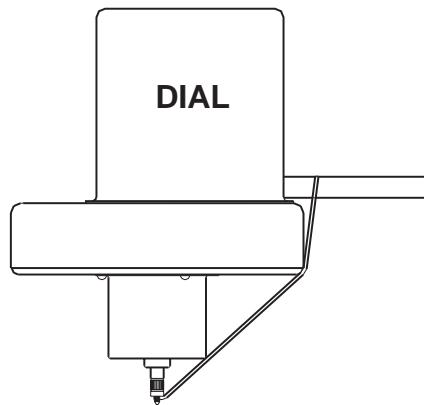

Figure G1
- Support pointer shaft with rubber band as shown in Figure G1.